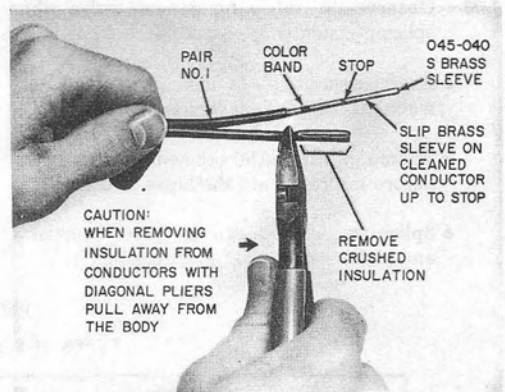

Fig. 4—Removing Insulation and Installing Brass Sleeve (Drop Wire)
- (4) Remove insulation, clean conductors with diagonal pliers, and install brass sleeves (Fig. 4).